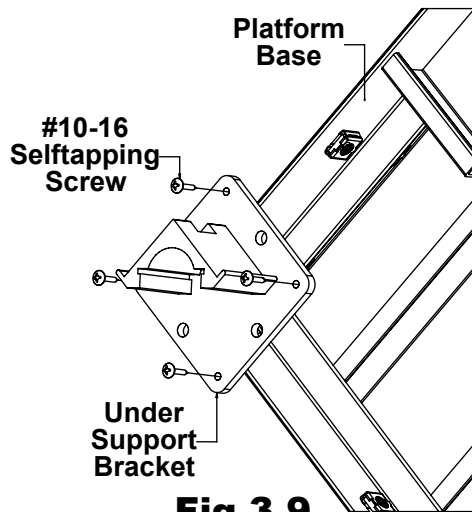
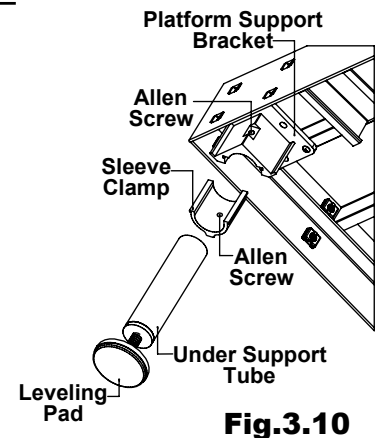

Fig.3.9
Fig.3.10
3.4 PLATFORM UNDER SUPPORT ATTACHMENT: Locate corners of platform that will require a platform under support kit (Fig.3.8). Place under support bracket flush in the corner of platform base, attach with four #10-16 self-tapping screws (Fig.3.9). Slip the sleeve clamp into the under support bracket, insert under support tube (Fig.3.10). Using a 5/32 allen wrench tighten set screw all of the way. The leveling pad can be used to make minor height adjustments; however, if major adjustments are necessary, the under support tube will need to be cut down.